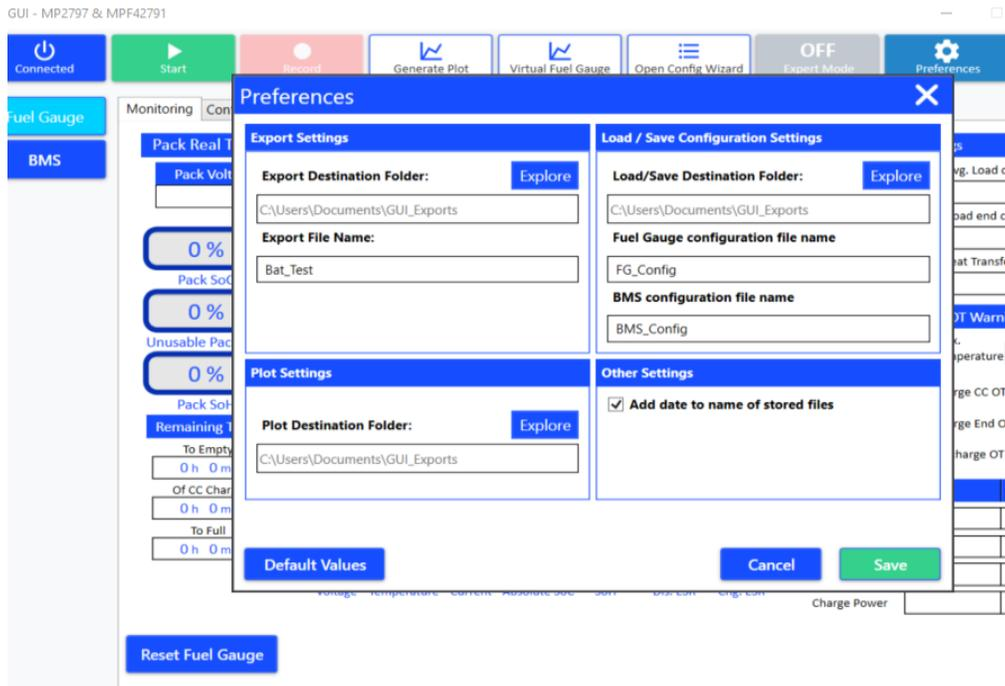

Figure 32: Preferences Window
2. Select the directories for the exports (“.csv” monitoring exports, configuration exports, or plots). The export names provide the option to add the date and time to the export files (see Figure 32).
- Once the configurations have been made, click “Save” (see Figure 32 on page 26). The configurations should be saved.